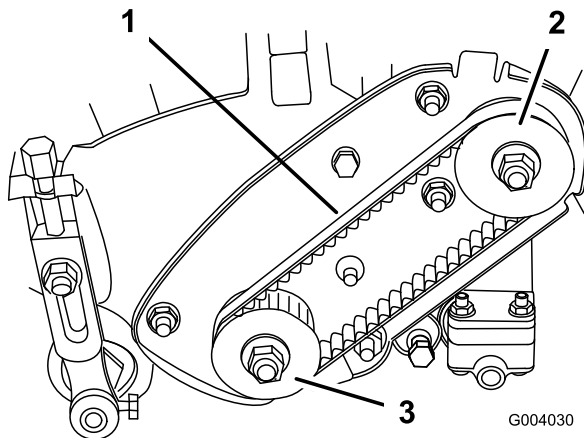

Figure 33
2. Check tension by depressing belt (Figure 33) at mid span of pulleys with 4 ± 1 lb. of force. Belt should deflect $3/16$ to $5/16$ inch (4.8 to 7.9 mm). If the deflection is incorrect, proceed to next step.